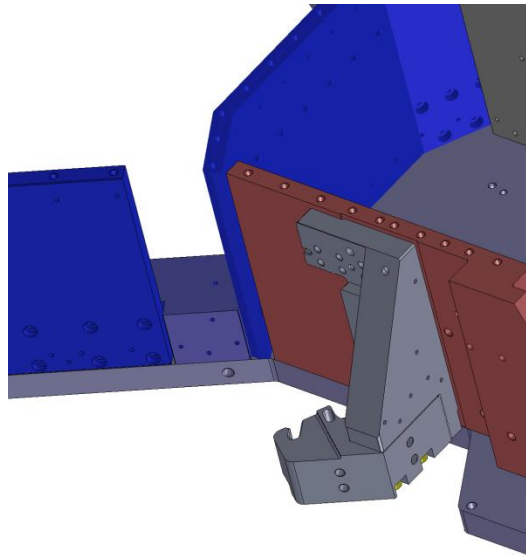

Figure 32: D0902425 Flexure Assembly mounted on D0902274 Flexure Wall
(2) 1/2-13 x 2.25" Ag-Plated SHCS – D1102184
(6) 1/2" Flat Washers – McMaster 92217A540
- Mount D0902425 Flexure Rod Assembly to D0902274 Flexure Wall using the dowel pins in D0902425 to locate D0902425 Flexure Rod Assembly as shown on Figure 32. Make sure pins seat properly into mating hole and slot.